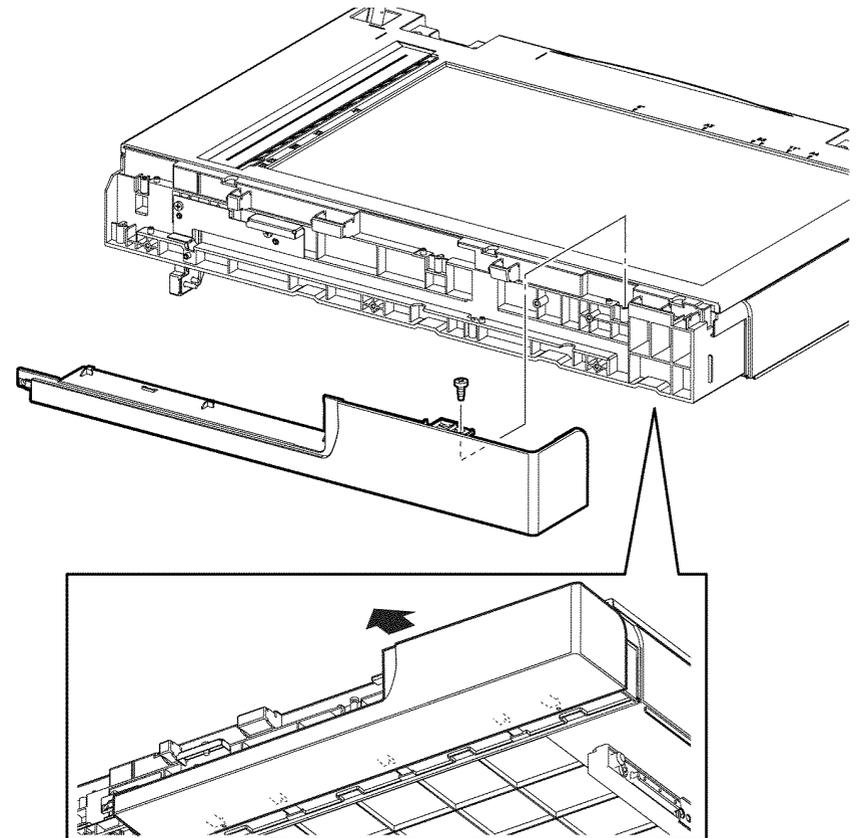

Figure 1 Scanner front bottom cover removal
2. Remove one screw (silver, tapping, 8mm), then remove the scanner front bottom cover, Figure 1.